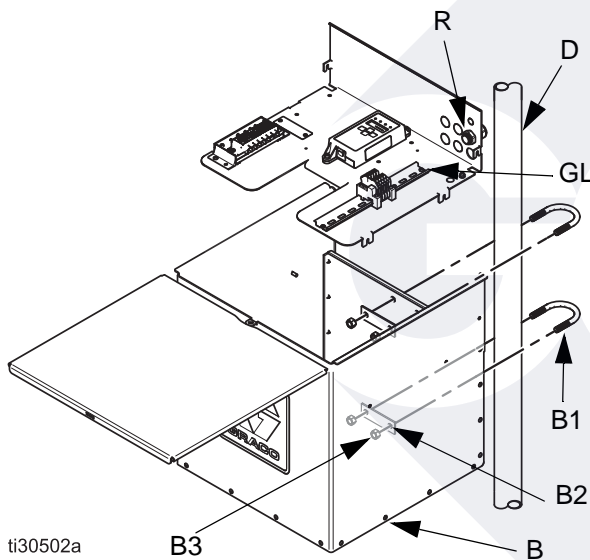

FIG. 8 Control Box Attachment
1. Set the control box (B) on the base of the stand unit.
2. Using two u-bolts (B1), and their corresponding mounting plates (B2) and nuts (B3), loosely attach the control box (B) to the stand unit (D). See FIG. 8.
Connect the solar panel cable to the MC4 connectors (not shown) extending from the grommet (R) at the back of the control box, ensuring the positive and negative leads are connected as labeled. See FIG. 8.